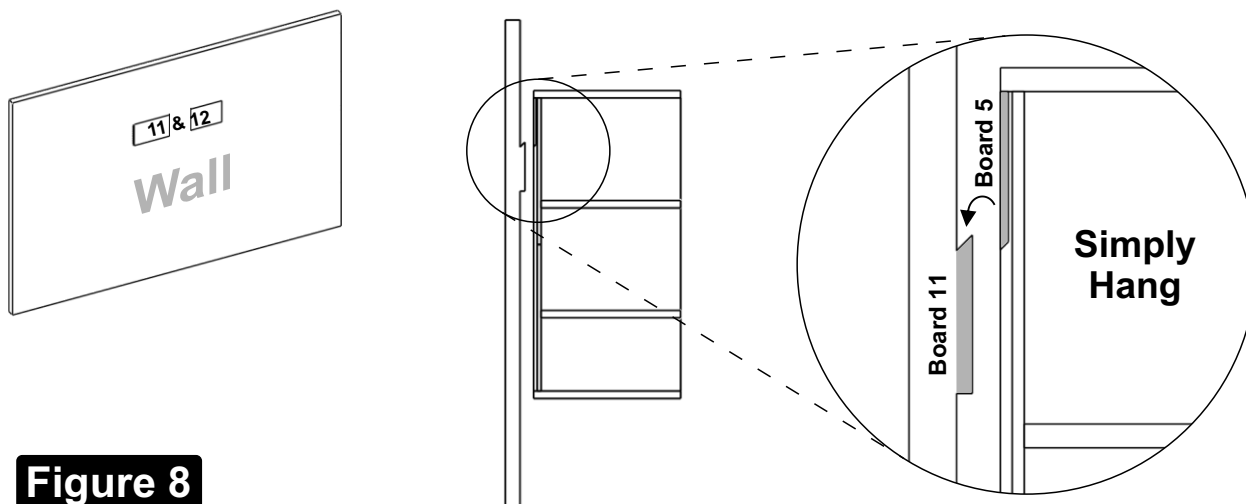

Figure 8
Step 8 : Affix **Board 11 & 12** on wall. Hang the both the cabinet assemblies onto the **Board 11 & 12** as shown in Figure 8.